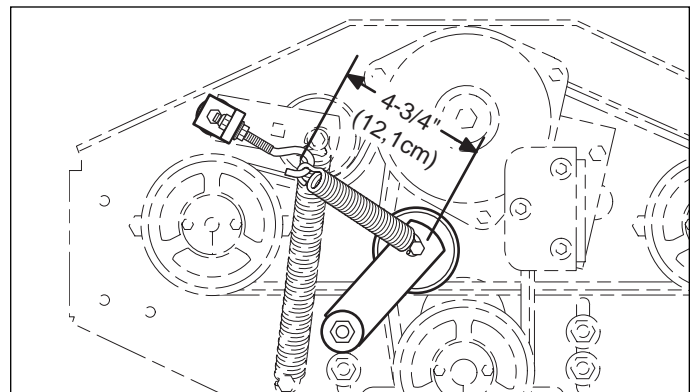

Figure 41. Idler Spring Measurement
2. Pushing upward on the gearbox (F), place the clutch belts in the grooves of the gear box pulley.
3. Push the gearbox down as far as possible and tighten the four (4) nylon lock nuts (E). Make sure the bottom pulley on the gearbox is parallel with the frame.
4. Hook the spring clutch belt idler spring on the screw hook and reinstall the screw hook into the anchor. Adjust the screw hook until the spring measures 4-3/4" (12,1cm) to the outside of the loops on the spring (see Figure 41).
5. Reinstall the clutch anchor pad to the clutch with the hardware (D) previously removed. Make sure the hardware is in the same order as it was before being removed, with the smaller washer(s) between the clutch pad and the clutch.